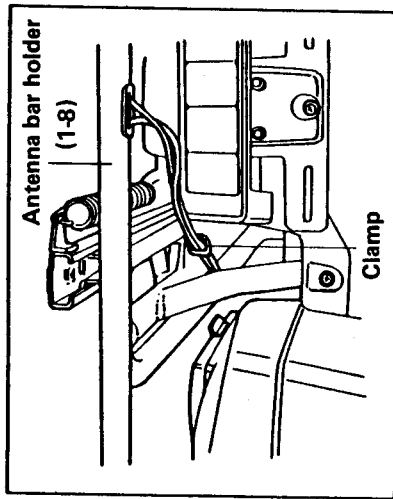

Fig. 18-2
- 1) Fasten the antenna wires with the existing clamp under the travel trunk as shown in Fig. 18-2.